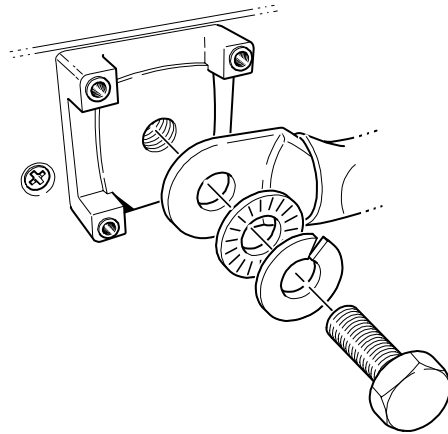

Figure 6 DC Cable Connections
Use only appropriately sized copper cable. Loose connections or improper connections will overheat. Make sure the bolts supplied by Xantrex on the inverter/charger are tightened to a torque of 15–16 ft-lbs (20.4–21.7 Nm). Torque all other connections to the manufacturer's specifications. Make sure the DC cable, washers, and bolt are assembled in the order shown in Figure 6.
4. Connect one connector on the POSITIVE (+) cable to the POSITIVE DC terminal on the inverter/charger, as shown in Figure 6. The connector goes on first, then the flat washer (steel), lock washer (steel), and 3/8" bolt (brass).
6. Connect one connector on the NEGATIVE (–) cable to the NEGATIVE (–) DC terminal on the inverter/charger, as shown in Figure 6. The connector goes on first, then the flat washer (steel), lock washer (steel), and 3/8" bolt (brass).